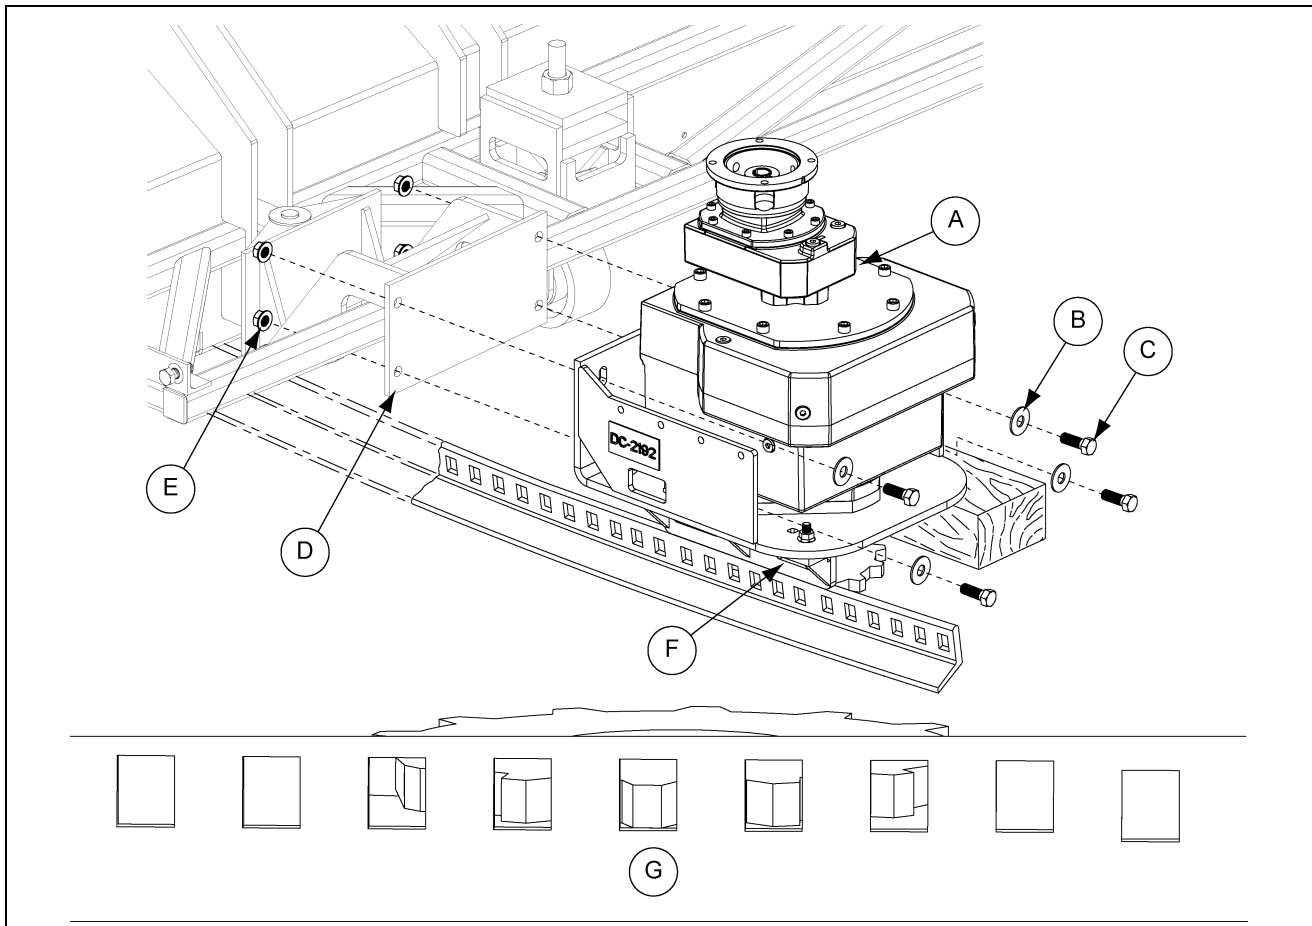

Figure 8F
1. Carefully place the gearbox assembly (A) in the upright position and support the assembly with blocks. (See Figure 8F.)
2. Position the gearbox assembly (A) so the drive keeper mounting plate (F) rests on top of the track and align the gear wheel teeth to the bottom of the track slots (G).